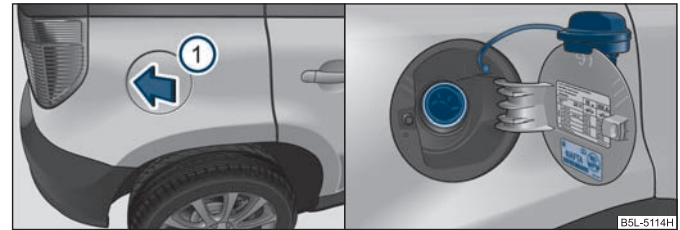

Fig. 160 Right rear side of the vehicle: Open fuel filler flap / fuel filler flap with cap unscrewed
Your vehicle can only be operated with **unleaded petrol**, which complies with the standard **EN 228**. The individual grades of petrol are distinguished by their octane number (RON). On the inside of the fuel filler flap, you will find the information regarding the RON required by your engine ⇒ page 201, fig. 160.
- Press in the middle of the left area of the fuel filler flap in direction of arrow ① ⇒ fig. 160.
- Unscrew the fuel filler cap anti-clockwise and place the fuel filler cap from above on the fuel filler flap ⇒ fig. 160 - right.